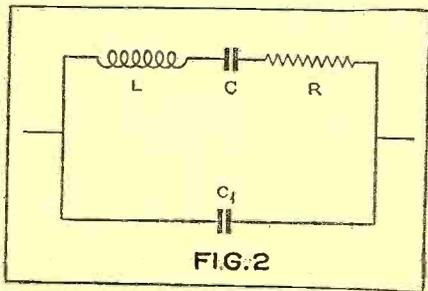

FIG. 2
Painstaking experiments with various types of "plugless" coils have convinced the author that many of the claims of "dead-end" losses have been very much exaggerated. In fact, we found that in about 95% of the cases the non-sensitive and critical condition was not caused by losses at all, but simply because of an overdose of regeneration due to an improperly proportioned tickler winding. When the proper value of plate coil was used and the windings of the grid coil were spaced as shown in Figure 2, the circuit became normal at once and the sensitivity, selectivity and ease of handling on the 13-24 and the 24-39 meter bands were just as good as when the conventional plug-in coils were used. However, it should be clearly understood that very much of the success obtained with this particular type of "plugless" coil will depend upon the methods of winding and switching. The plate coil must be coupled to the grid end of the tapped coil and the windings of the latter must be spaced at least $\frac{3}{8}$ inch or more. The band-change switch is arranged in such a manner that the unused portion of the coil is short cir-
The coil and the inductance switch are probably the most difficult items to construct, although even these are easily made. As shown in Figure 2, the coil is of the tapped variety, the change from one band of frequencies to another being accomplished by the simple process of shorting out the unnecessary portion of the winding. In this particular coil the windings are placed on a one inch bakelite form, taps being taken off at the fourth, seven and three-fourths and fifteenth turns. *Whenever a tap is taken off, the next winding must be spaced at least 3/8 inch or more from the turns of the preceding coil.* If the windings are not spaced in this manner losses will take place in spite of every precaution. The tickler coil is wound in the reverse direction to that of the grid winding in order to reduce the detuning effect of the regeneration control and is coupled to the *grid end* of the tuning coil. Do not wind this coil between the turns of the grid coil! Four turns of No. 28 enameled wire, close wound, will give sufficient excitation on all bands without saturation at the high-frequency portion of the tuning range.
The author was reluctant to give up the advantages gained through the use of the new low loss insulating materials; so, after searching through a dozen mail order catalogs and failing to find anything which corresponded to our idea as to what a low-loss inductance switch should be, we built the one illustrated herewith. As shown in Figure 2 the home-made wave-change switch is made from an Eby ceramic socket and an old filament rheostat of the midget type. The rivets holding the socket terminals were drilled out and the contacts were removed from the socket. Three switch points were then fitted to the rivet holes, the tops being rounded off somewhat to allow the rheostat arm to sweep smoothly over them. The resistance element was removed from the rheostat and the arm was reversed on the shaft as shown. Finally the socket and rheostat were assembled as shown in Figure 2, being held together by means of two one inch long machine screws. To obtain a "sure-fire" connection to ground, a flexible "pig-tail" wire is soldered to the arm and to the grounded portion of the switch. The positions of the switch knob for the different ranges are also illustrated in Figure 2.
Figure 2. The inductance L1-L2 is similar to that shown in the photo of the 3/4-meter transmitter last month. The antenna loop terminates at the 2 porcelain insulators on the wall of the shield and can be bent to provide the desired degree of coupling.
Connected into an electrical circuit, the piezo-electric quartz plate "appears" to the rest of the circuit as a sharply tuned combination of inductance, capacity and resistance. K. S. Van Dyke,³ investigating this equivalence of quartz plates and resonant circuits, found that a crystal having a fundamental frequency of about 1100 kc. gave the following values for the elements of the equivalent circuit shown in Figure 2:
Van Dyke points out, and later discussion will show, that the series branch of the circuit of Figure 2 corresponds to the vibrating crystal. The shunt capacity C₁ is, in Figure 2, a function of certain crystal parameters which
In Figure 3, which is essentially Figure 2 without the resistance and which will be employed later in the derivation of the elements for the various types of filter networks, the shunt capacity C_h includes the electrostatic capacity of the crystal electrodes, or holder. As will be shown in equations (2) and (3), appearing below, the ratio of C_h to C_e is 125 or greater. This ratio of 125 or more will be used later in the design of the filter networks as a check on certain of the computations.
the 43. The results are shown in curve A of Figure 2. In this case R1 was 1 meg. and R2 was 4500 ohms. The arm on R1 was adjusted for 2 ma. plate current in the 43, with no input. Incidentally, the filament resistor R3 was 200 ohms, 30 watts.
The microphone power supply, Figure 2, should be a separate unit. It is unusual only in the respect that it uses an ample filter. The power transformer should supply in the vicinity of 220 volts at approximately 20 ma. Voltages within 25% plus or minus of this figure do not seem to effect operation to any degree. The greatest limiting factor is the inability of some condenser microphones to withstand a potential of more than 250 volts d.c. Two 30 henry chokes, followed by a good audio transformer primary as the final choke, together with a total of 32 mfd. (450 volts) of electrolytic condenser, comprise the filter. A 5-watt resistor, will often improve stability.